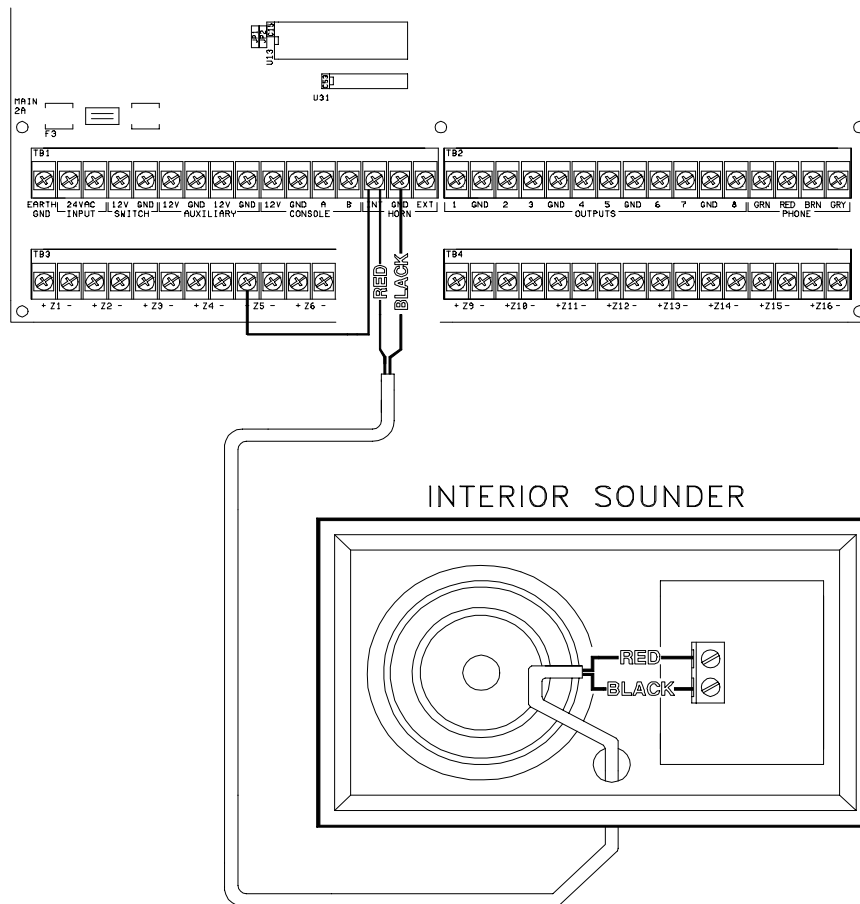

FIGURE 6
3. Refer to **FIGURE 6 (INTERIOR SOUNDER CONNECTION)** for connections.